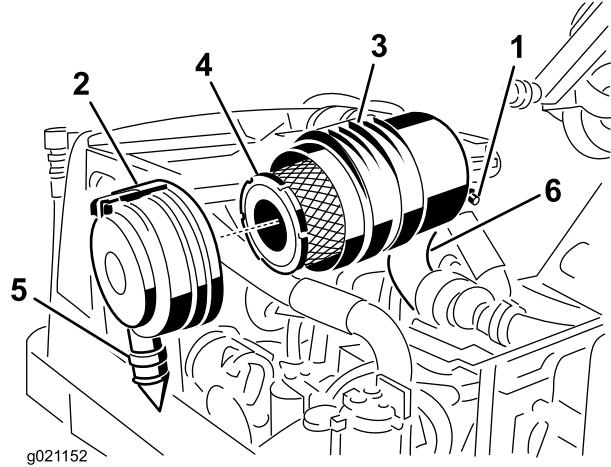
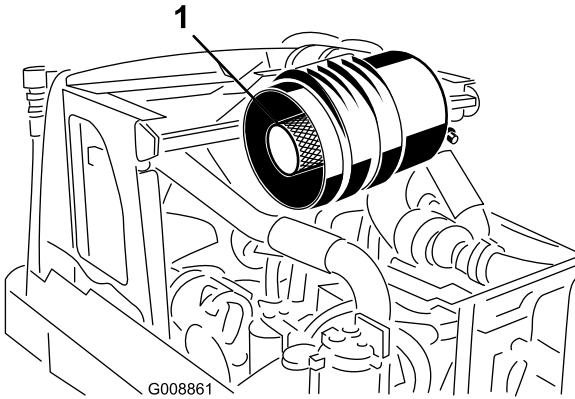

Figure 59
Figure 60
- Pull the latch outward and rotate the air cleaner cover counterclockwise (Figure 59).
- Remove the primary filter (Figure 59). Cleaning of the used element is not recommended due to the possibility of damage to the filter media. Inspect the new filter for shipping damage, checking the sealing end of the filter and the body. Do not use a damaged element. **Do not** remove the safety filter (Figure 60).
**Important:** Never attempt to clean the safety filter (Figure 60). Replace the safety filter with a new one after every three primary filter services.
- Replace the primary filter (Figure 59).
6. Install the cover orienting the rubber outlet valve (Figure 59) in a downward position - between approximately 5:00 to 7:00 when viewed from the end. Secure the latch.